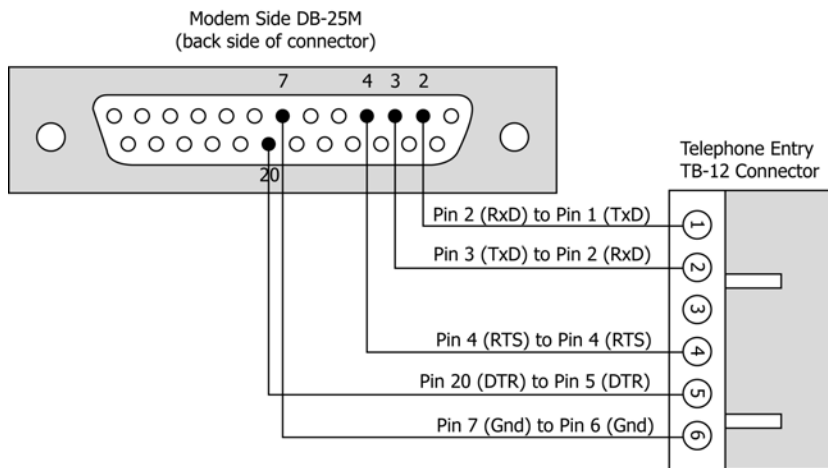

Figure 18: Modem/DB-25M to Telephone Entry/TB-12 Serial Port Connections
- If the modem has a female DB-25 connector, you must use a Keri Systems KDP-336 cable or create a cable as shown in Figure 18.